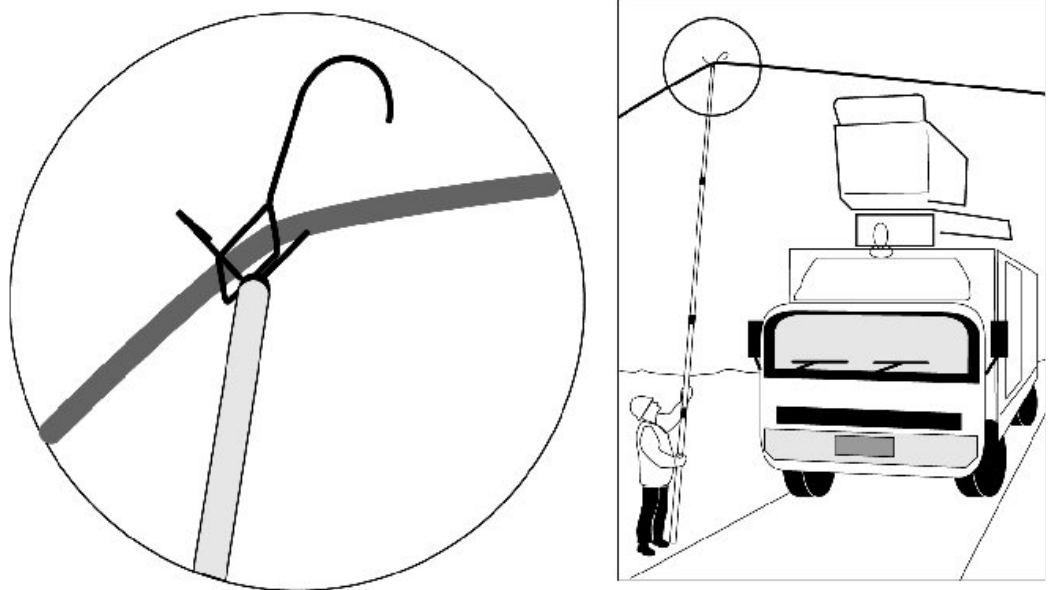

Figure 4 – High Load passing under cable
- Remain in attendance at the rod to ensure that there is no slippage along the cable whilst the high load passes under. See **Figure 4**.